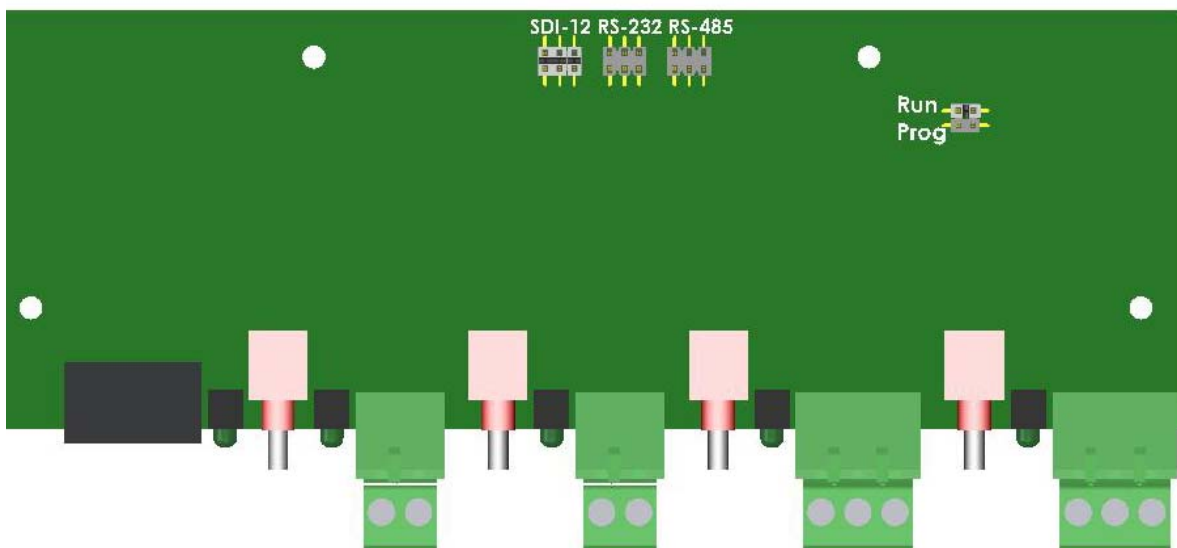

Figure 6: LR4 Jumper Positions
- Locate the Program mode jumper and move the Jumper from Run mode to Prog. mode as shown in Figure 6: LR4 Jumper Positions.
The LR4 can operate in a MODBUS mode. The 3 internal jumpers in the LR4 need to be moved from the SDI-12 position to either the RS-232 or the RS-485 position for MODBUS operation. By default the LR4 is shipped with the jumpers set for SDI-12 Operation. The jumpers must be moved prior to any connection with an RS-232 or an RS-485 device. See Figure 6: LR4 Jumper Positions to help locate the jumper positions on the PCB.